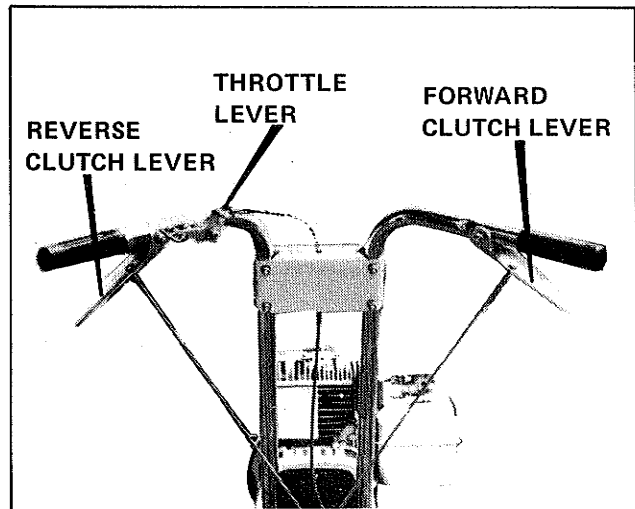

Figure 9.
7. Loosen locknut holding clutch grips to handles so that controls work freely. ( See figure 9 )
See Figure 9. Familiarize yourself with the following controls: